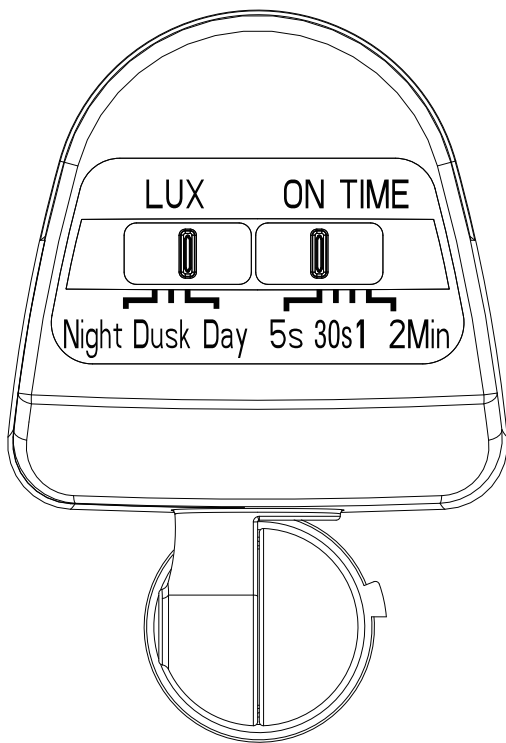

FIGURE 6
1. Set the two adjustment controls on the bottom of the sensor, (see **Figure 6** on page 8) to the following positions:
Once the walk tests are completed, the unit can be switched to automatic operation. The **TIME** setting controls how long the unit remains illuminated following activation and after all motion ceases. The minimum time (slide switch) is approximately 5 seconds, the maximum time (slide switch) is approximately 2 minutes. Set the slide switch control to the desired setting between these limits (see **Figure 6**).